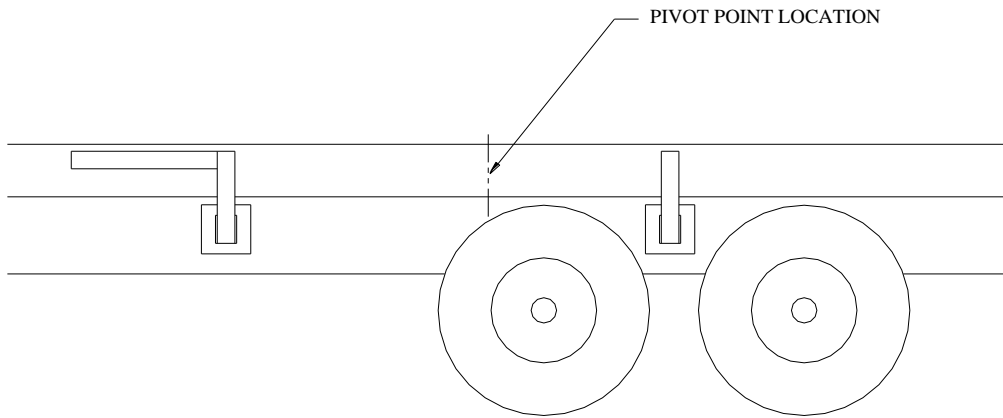

Figure 9
Note: There are (2) 21" pieces of 2-1/2 X 3-1/2 square tubing that can be cut and used as extensions included in this kit. An example of how the extension can be used is shown in figure 9 below.